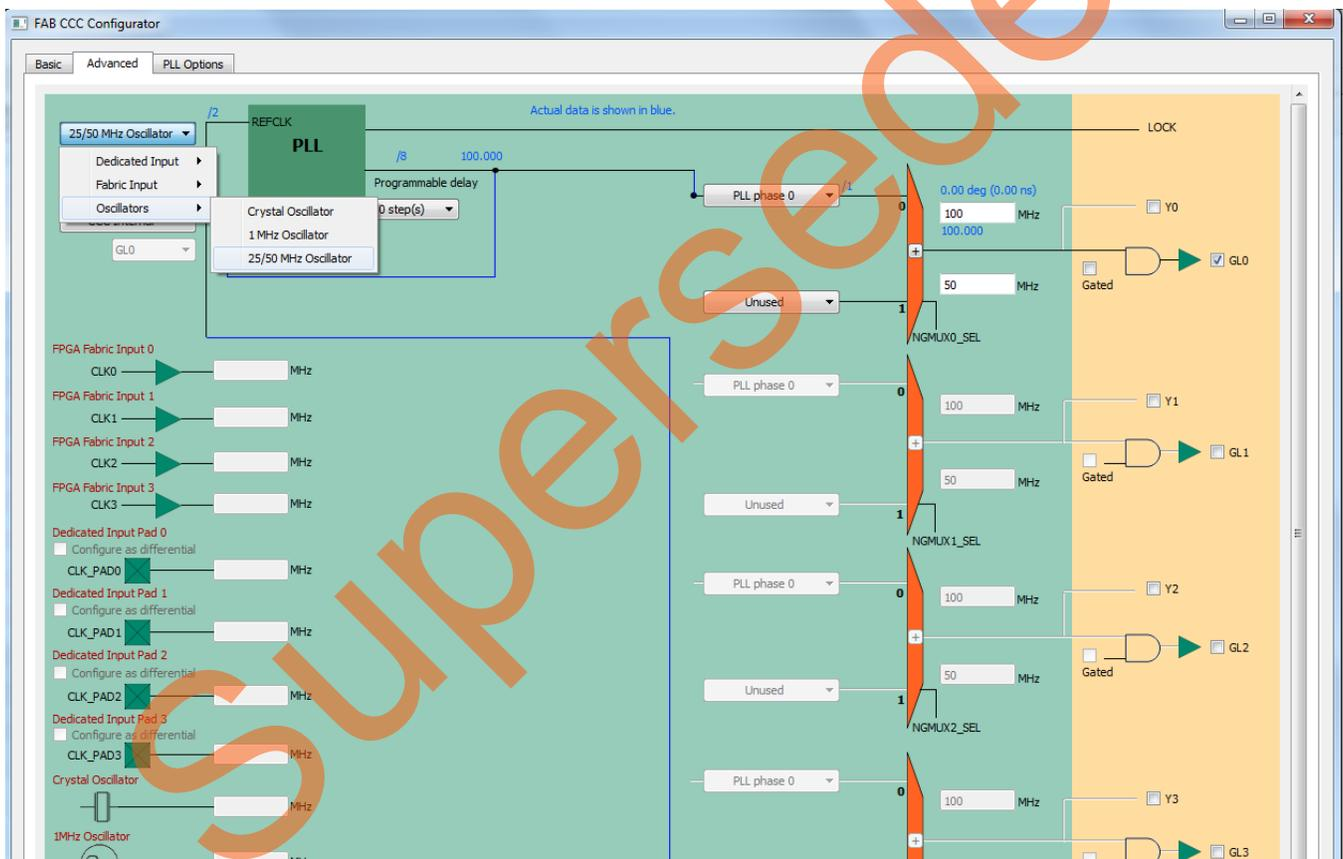

Figure 20. Selecting Clock Source
- Select the clock source as **Oscillators > 25/50 MHz Oscillator**, as shown in Figure 20.